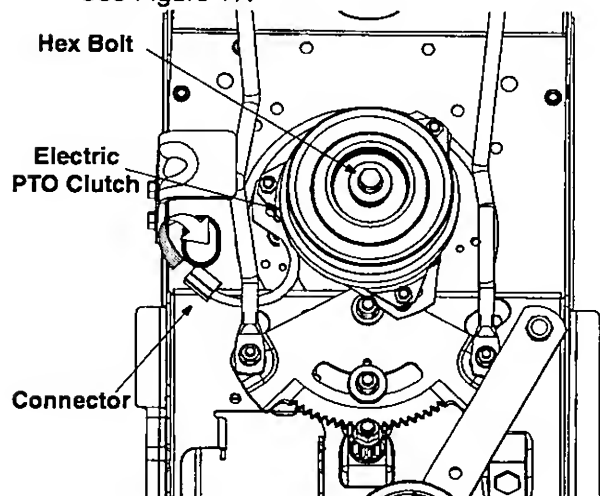

Figure 17
- Carefully unplug the tractor's wire harness from the connector on the electric PTO clutch. See Figure 17.
- Remove the hex bolt from the center of the electric PTO clutch and gently lower the electric PTO clutch off of the engine crankshaft. Be careful not to lose the flat washer found on top of the electric PTO clutch. See Figure 17.